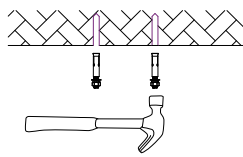

Fig 4
2. Fix screws into the holes with a hammer. (Fig 4)